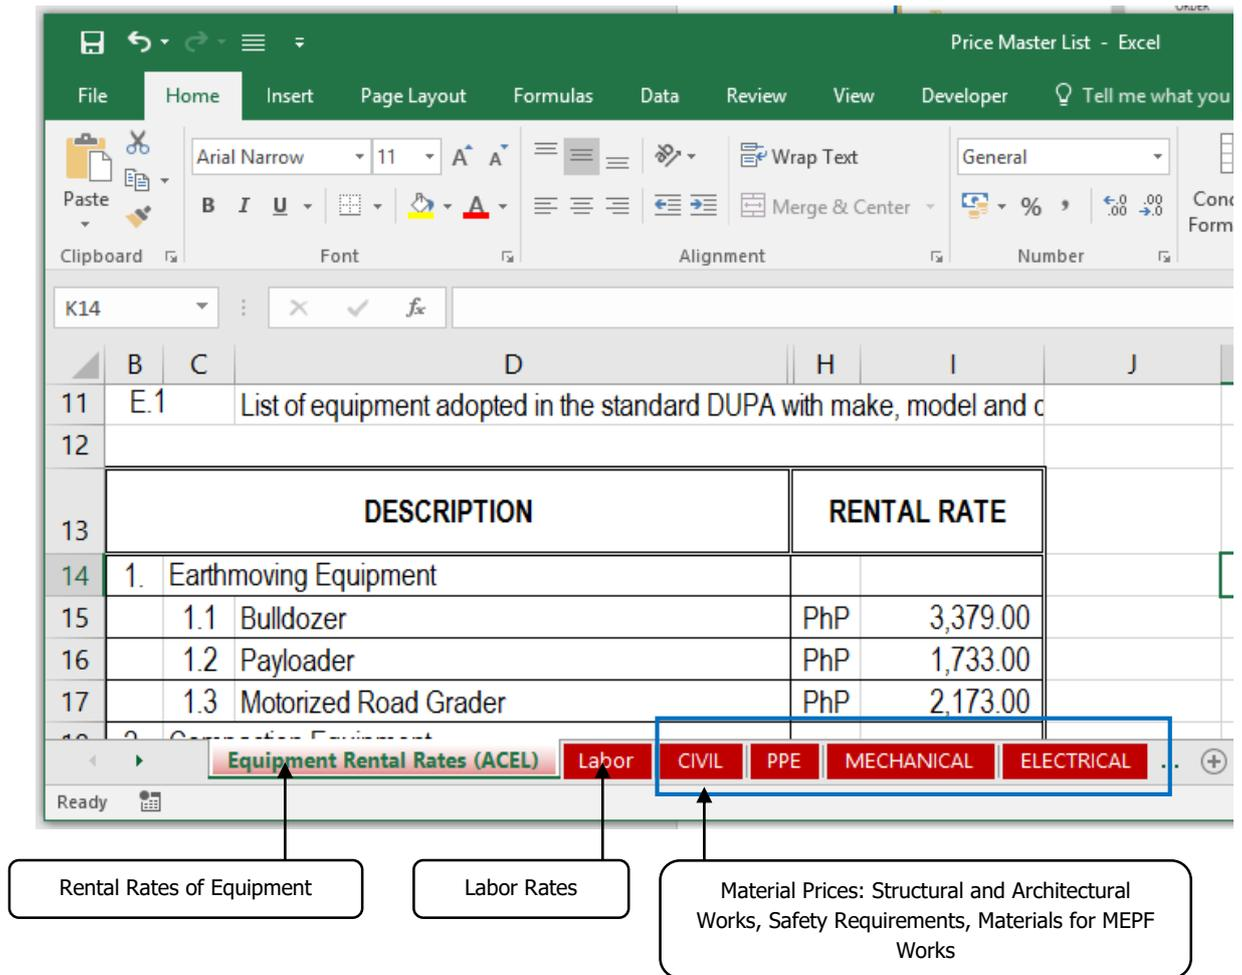

Figure 3 Sheets to be updated in the Price Master List
3.1.3 In the File No. 1 - Price Master List, update the necessary data prices in the Excel sheets as presented in Figure 3 based on the latest ACEL Rate, DOLE Standard Labor Rates, Construction Materials Price Data (CMPD) and price quotations (if materials are not in the list of materials in the CMPD) of the respective region or district.